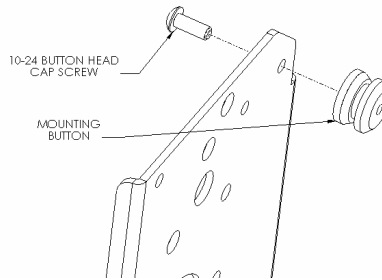
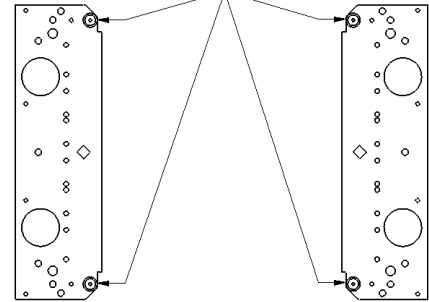

Figure 2
Figure 3
- Using a 10-24 button head cap screw inserted from back side of bracket through holes, secure mounting button, with chamfered hole of mounting button (larger surface) facing bracket, to bracket (four places) (see Figure 2 & Figure 3).